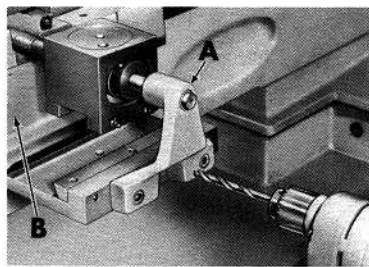

Figure 9
14. Remove the taper bar and slide. Drill two 1/4" holes 1-1/4" deep in support bracket (A, fig. 9), and in bearing support (B). Install pins (furnished) flush with surface.